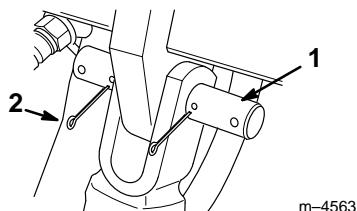

**Figure 5**
1. Remove the bolt securing the upper tilt cylinder pin (Fig. 5).